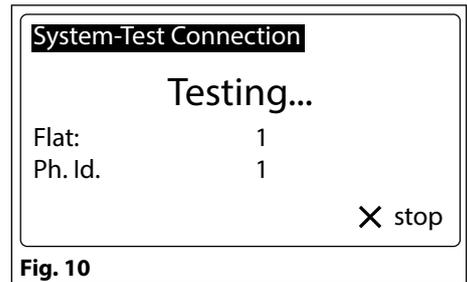

Fig. 10
- press "5" and init the test. Now display will look like **Fig. 10**.